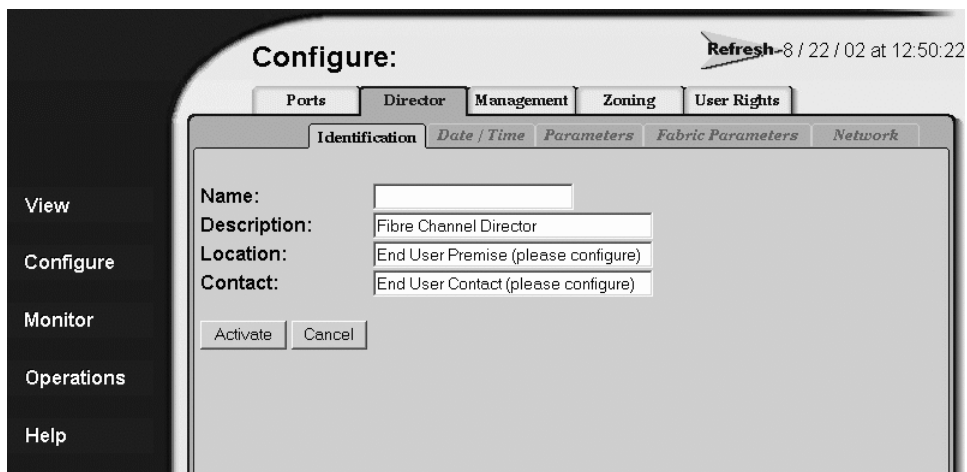

Figure 3–4: Identification page
1. At the **Configure** page, click the **Director** tab. The **Identification** page displays, as shown in Figure 3–4.